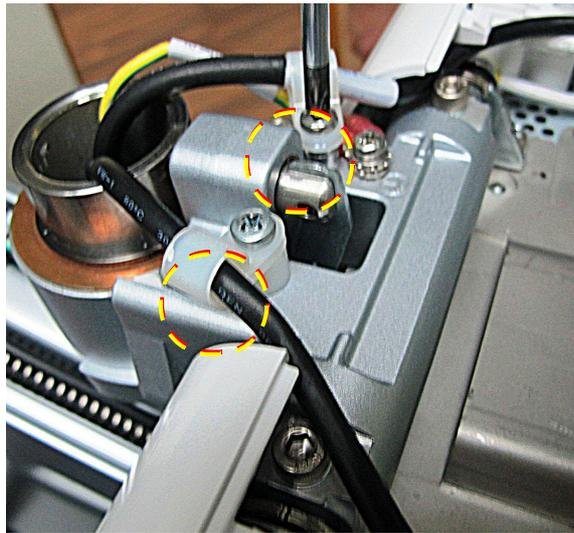

Figure 8-100 Cable Holders Located on Articulated Arm
- 3.) Unscrew the two cable holders as shown in Figure 8-100 below.